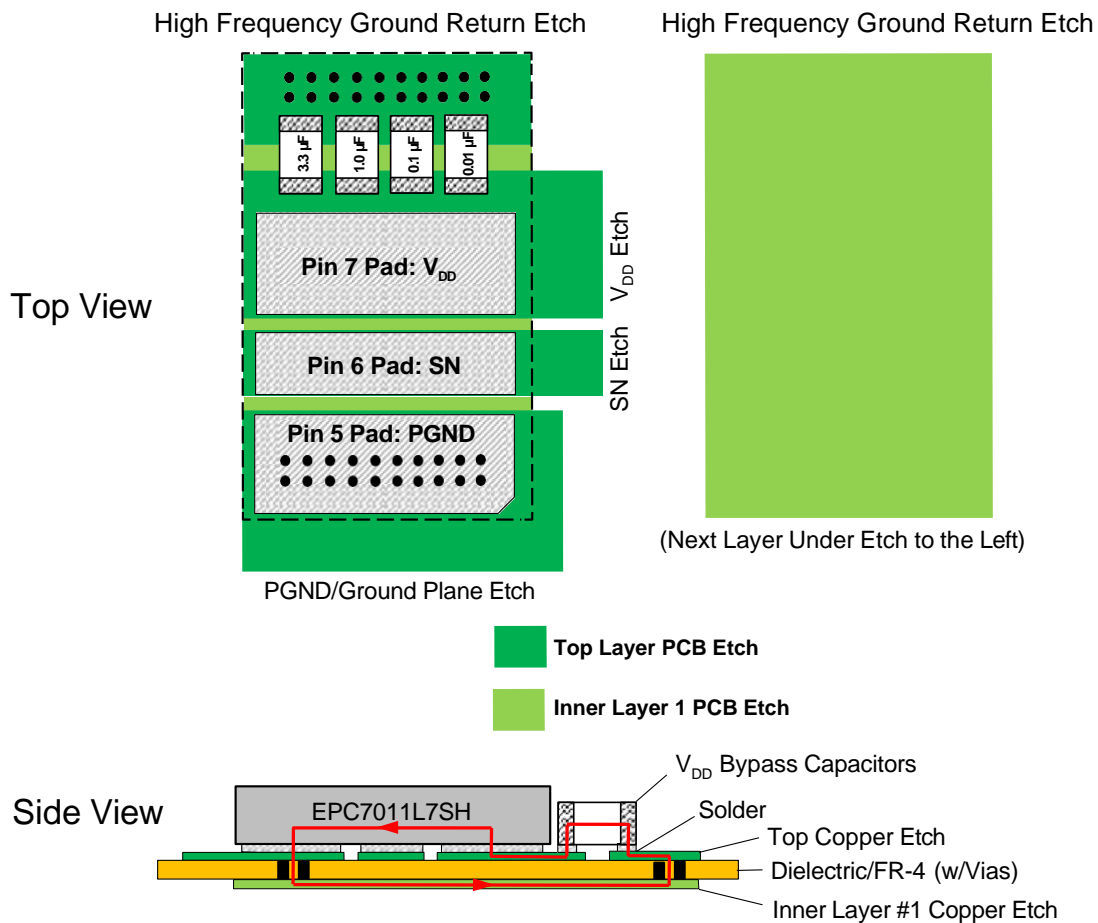

Figure 4. Recommended Optimum  $V_{DD}$ -to-PGND Power Supply Bypass Capacitor Layout (Not to Scale)
Because of the extremely high slew-rate of voltage seen at the SN output it is recommended that a minimum of one (1) 3.3  $\mu\text{F}$  microfarad ceramic capacitor, one (1) 1.0 microfarad ceramic capacitor, one (1) 0.1 microfarad ceramic capacitor and one (1) 0.01 microfarad ceramic capacitor, all with sufficient voltage de-rating, be connected from  $V_{DD}$  to PGND. All four of these capacitors should be low ESR types, if possible. It is strongly recommended that these capacitors have the smallest possible case sizes possible such that they inscribe the smallest possible loop area between  $V_{DD}$  and PGND so as to minimize the inductance related to this loop area. Also, to reduce the inductive loop between  $V_{DD}$  and PGND is strongly recommended that an induction loop cancellation layout of the high frequency power supply capacitors be employed. Figure 4 illustrates the recommended optimum layout and placement for the  $V_{DD}$ -PGND high-frequency bypass capacitors.
It should be noted that in Figure 4 that the light green copper etch area on the PCB's inner layer #1 is positioned directly beneath the copper etch clad on the top layer, as indicated by the dashed line.